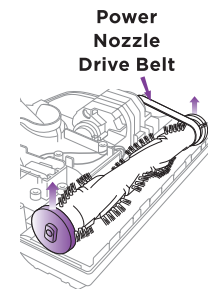

Fig. 23
- 6 First lift up the left end of the rotating brush with no belt and then the right end where the belt loops around. (Fig. 23)